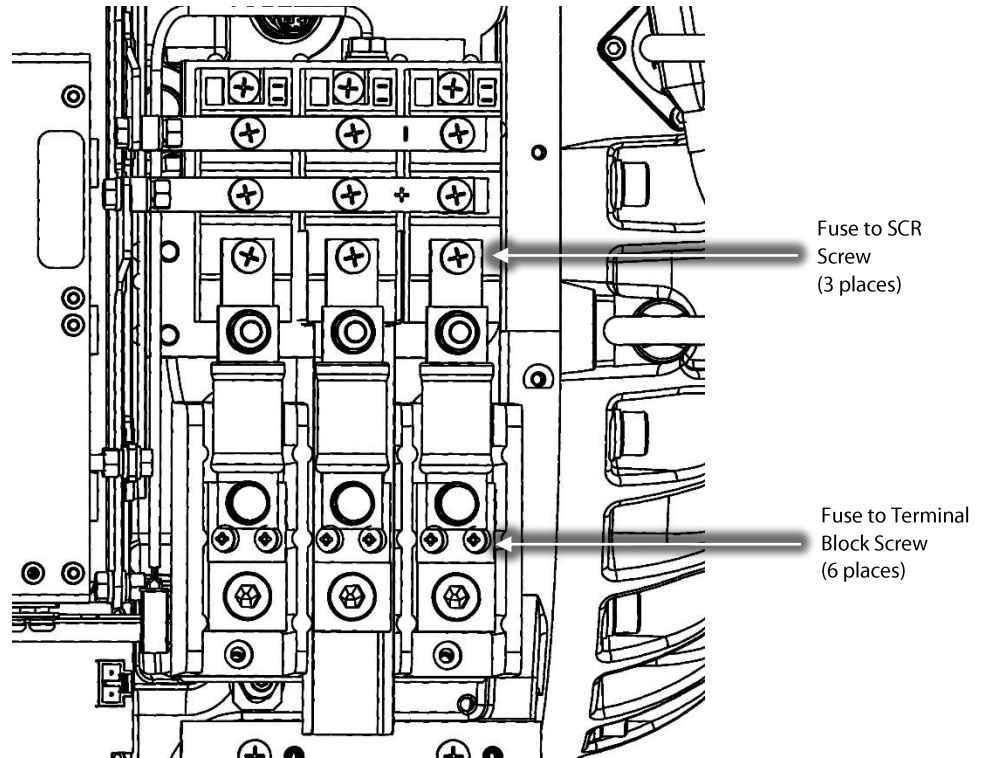
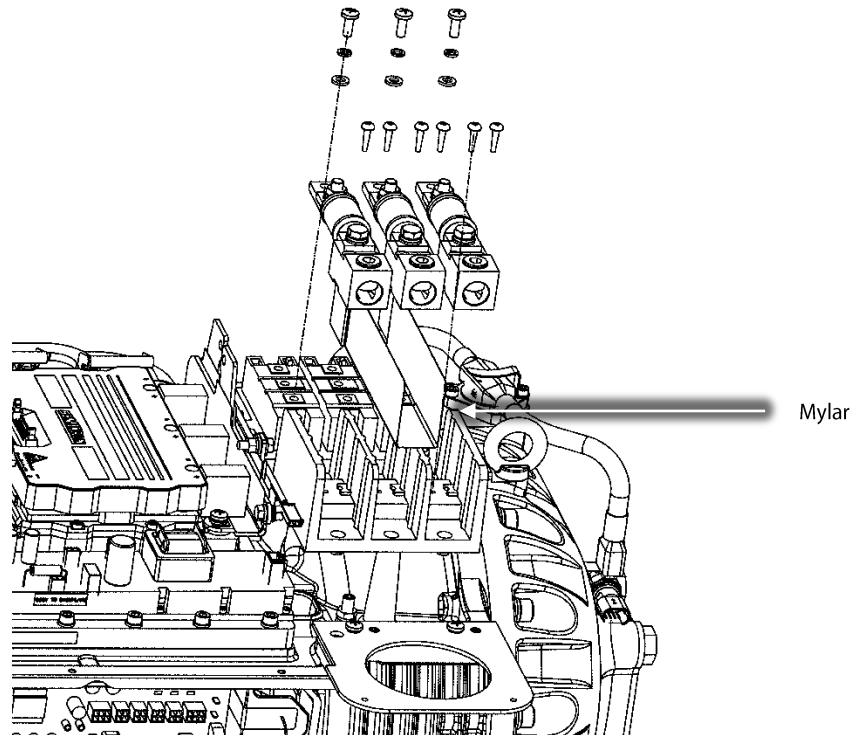

Figure 8 – Fuse Block Assemblies
Figure 9 – Mylar Removal
17. Remove the three (3) fasteners that connect the Fast Acting Fuses to the SCR's and, noting their orientation, the 3-Phase input wires to the Soft Start AC/DC cable harness. Refer to Figure 8 (Fuse Block Assemblies).
18. Remove the two (2) fasteners from each of the three (3) fuse block assemblies and set aside the fuse assemblies. Refer to Figure 8 (Fuse Block Assemblies) and Figure 9 (Mylar Removal).
19. Remove the insulating Mylar from the middle Terminal Block and set aside. Refer to Figure 9 (Mylar Removal).